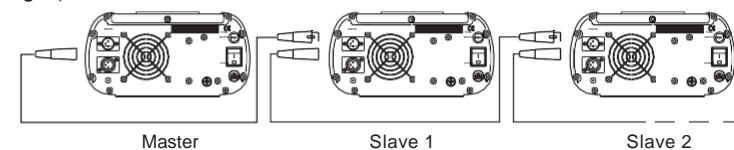

Fig. 3
(4) The connection of Master/Slave Control Mode (See Fig. 3):